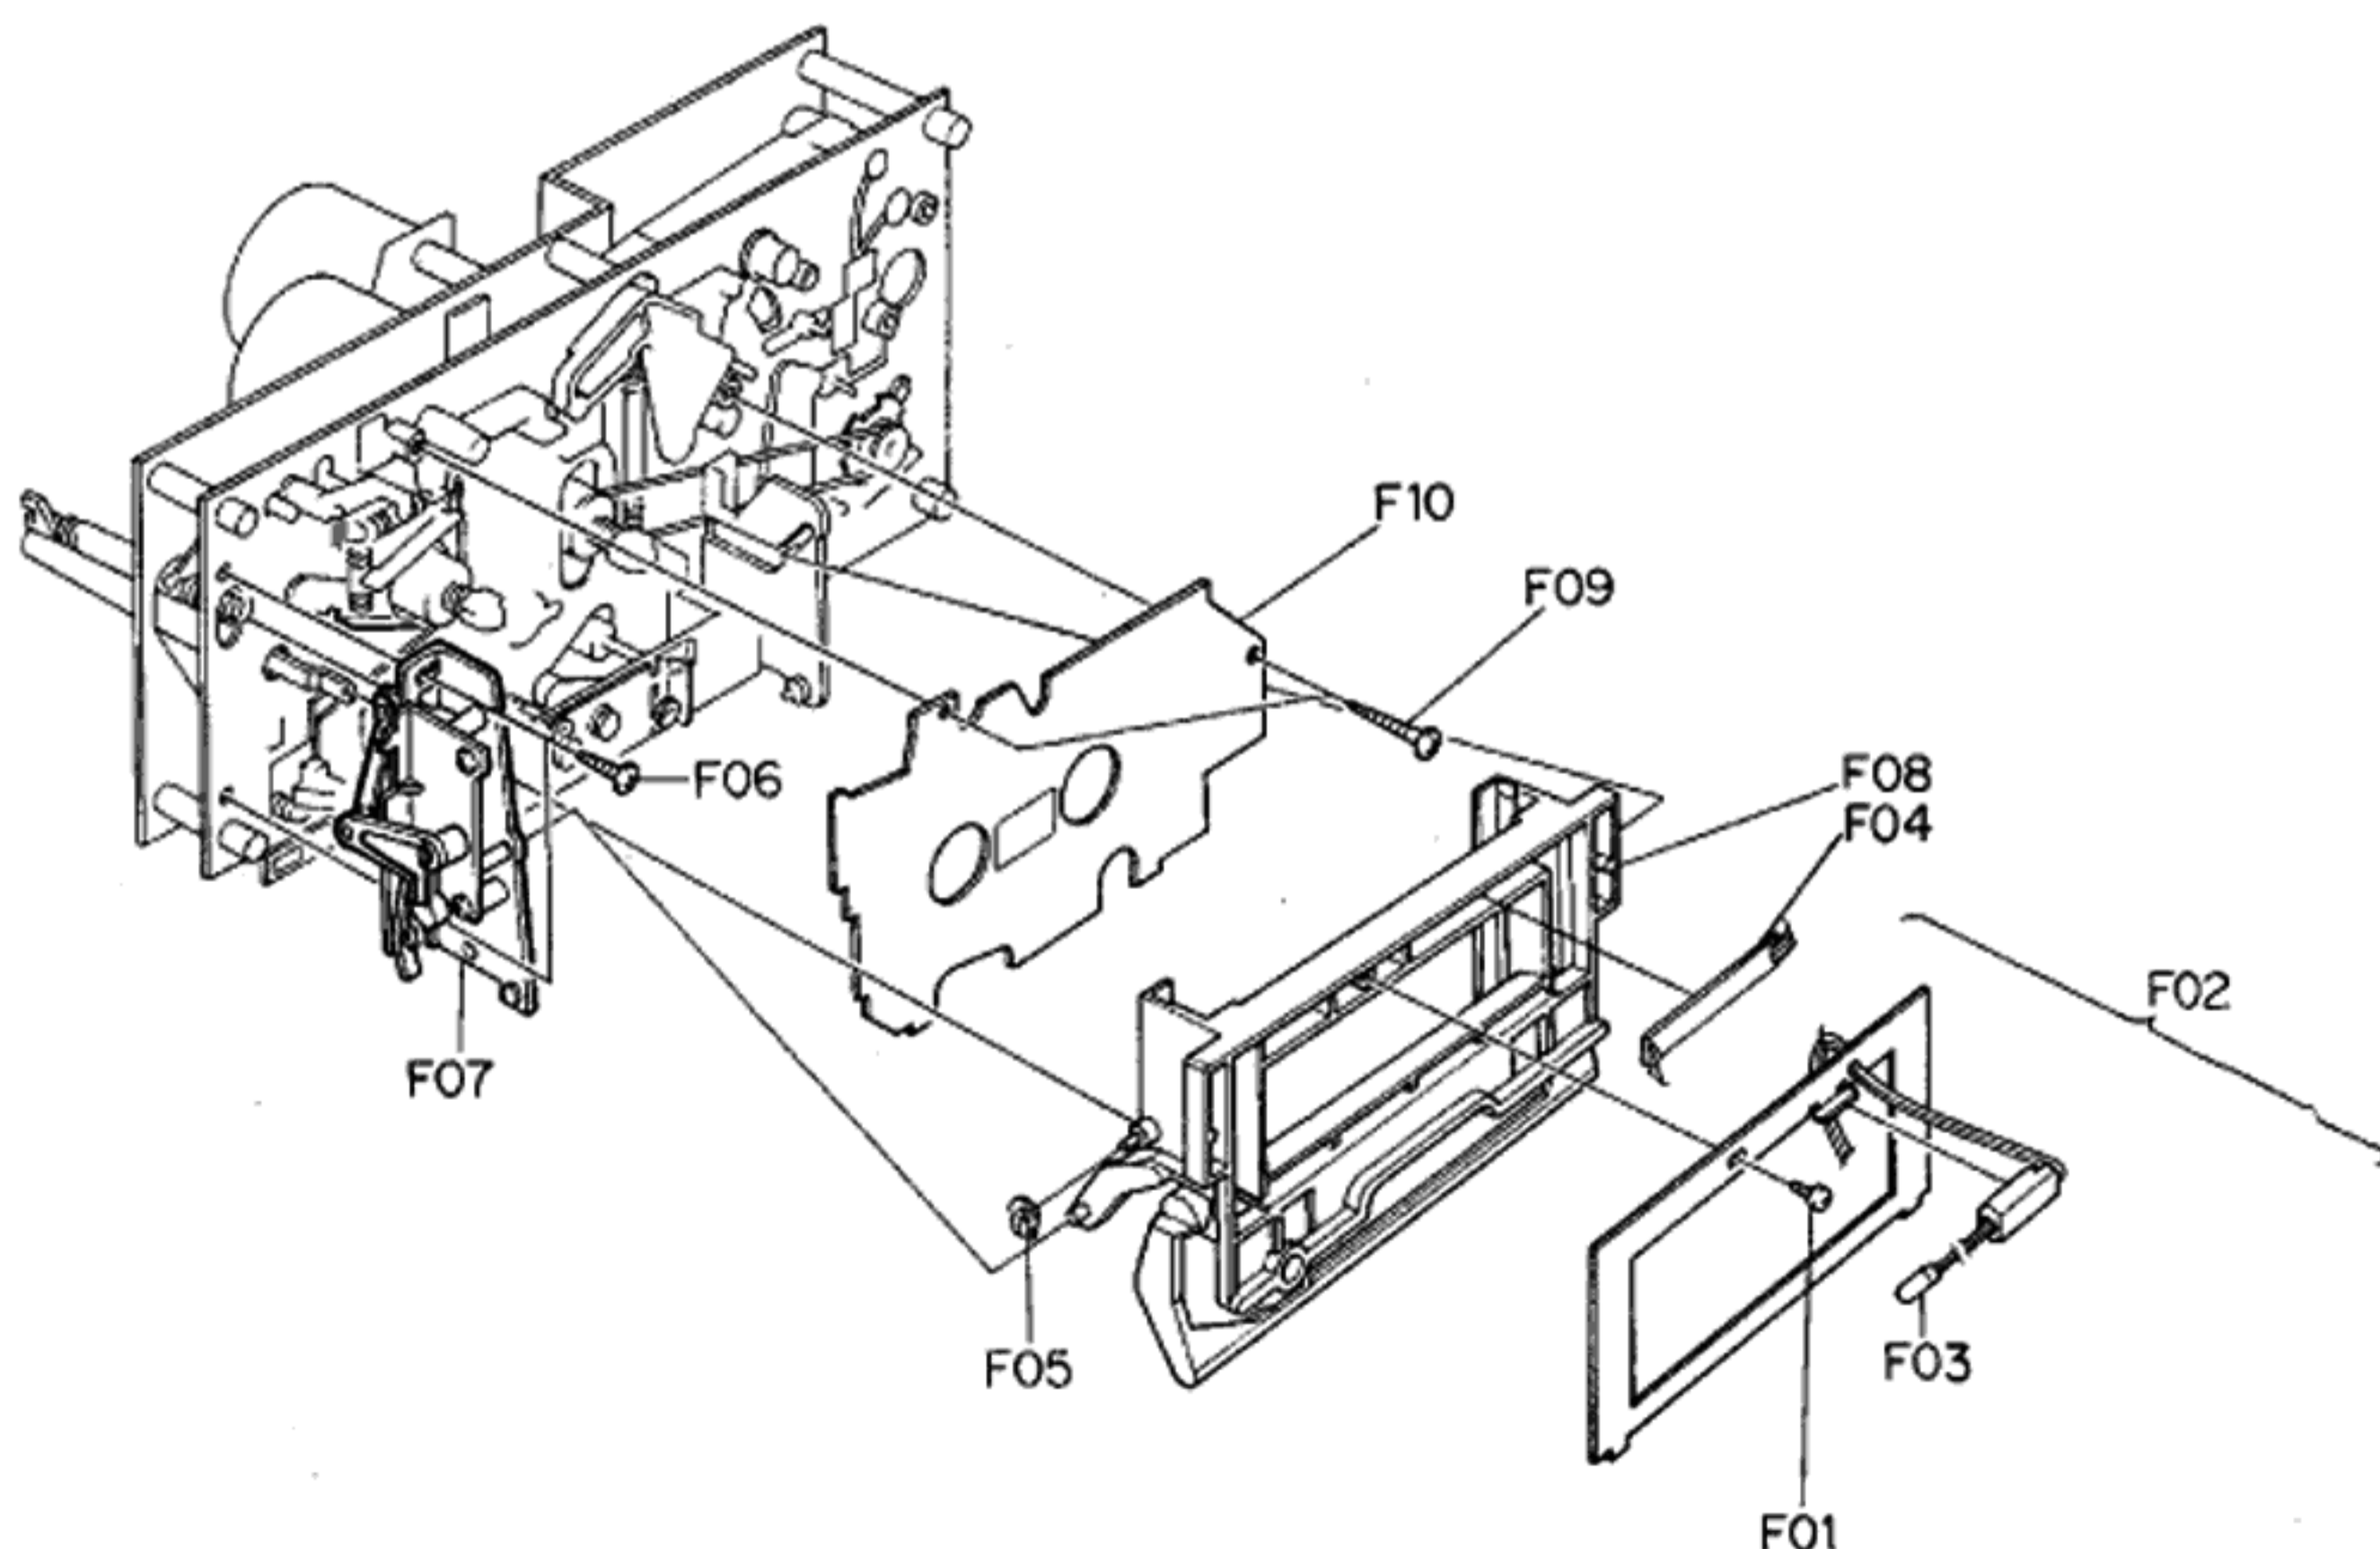

Fig. 2.7
Refer to Fig. 2.7.
- (1) Refer to Fig. 2.7. Remove Cassette Case Ass'y referring to item 2.17.
- (2) Remove F01, then disassemble F02 (Head Mount Base Ass'y).